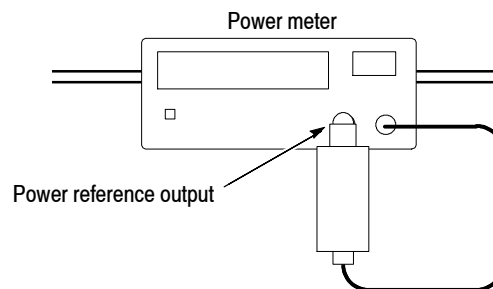

Figure 5-3: Hookup for calibrating the power sensor
- a. *Modify the hookup:* Connect the power sensor input to the power reference output of the power meter (see Figure 5-3).